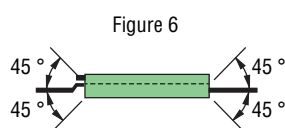

Figure 6
- f) Do not bend terminals more than 45° at root (refer to Figure 6)